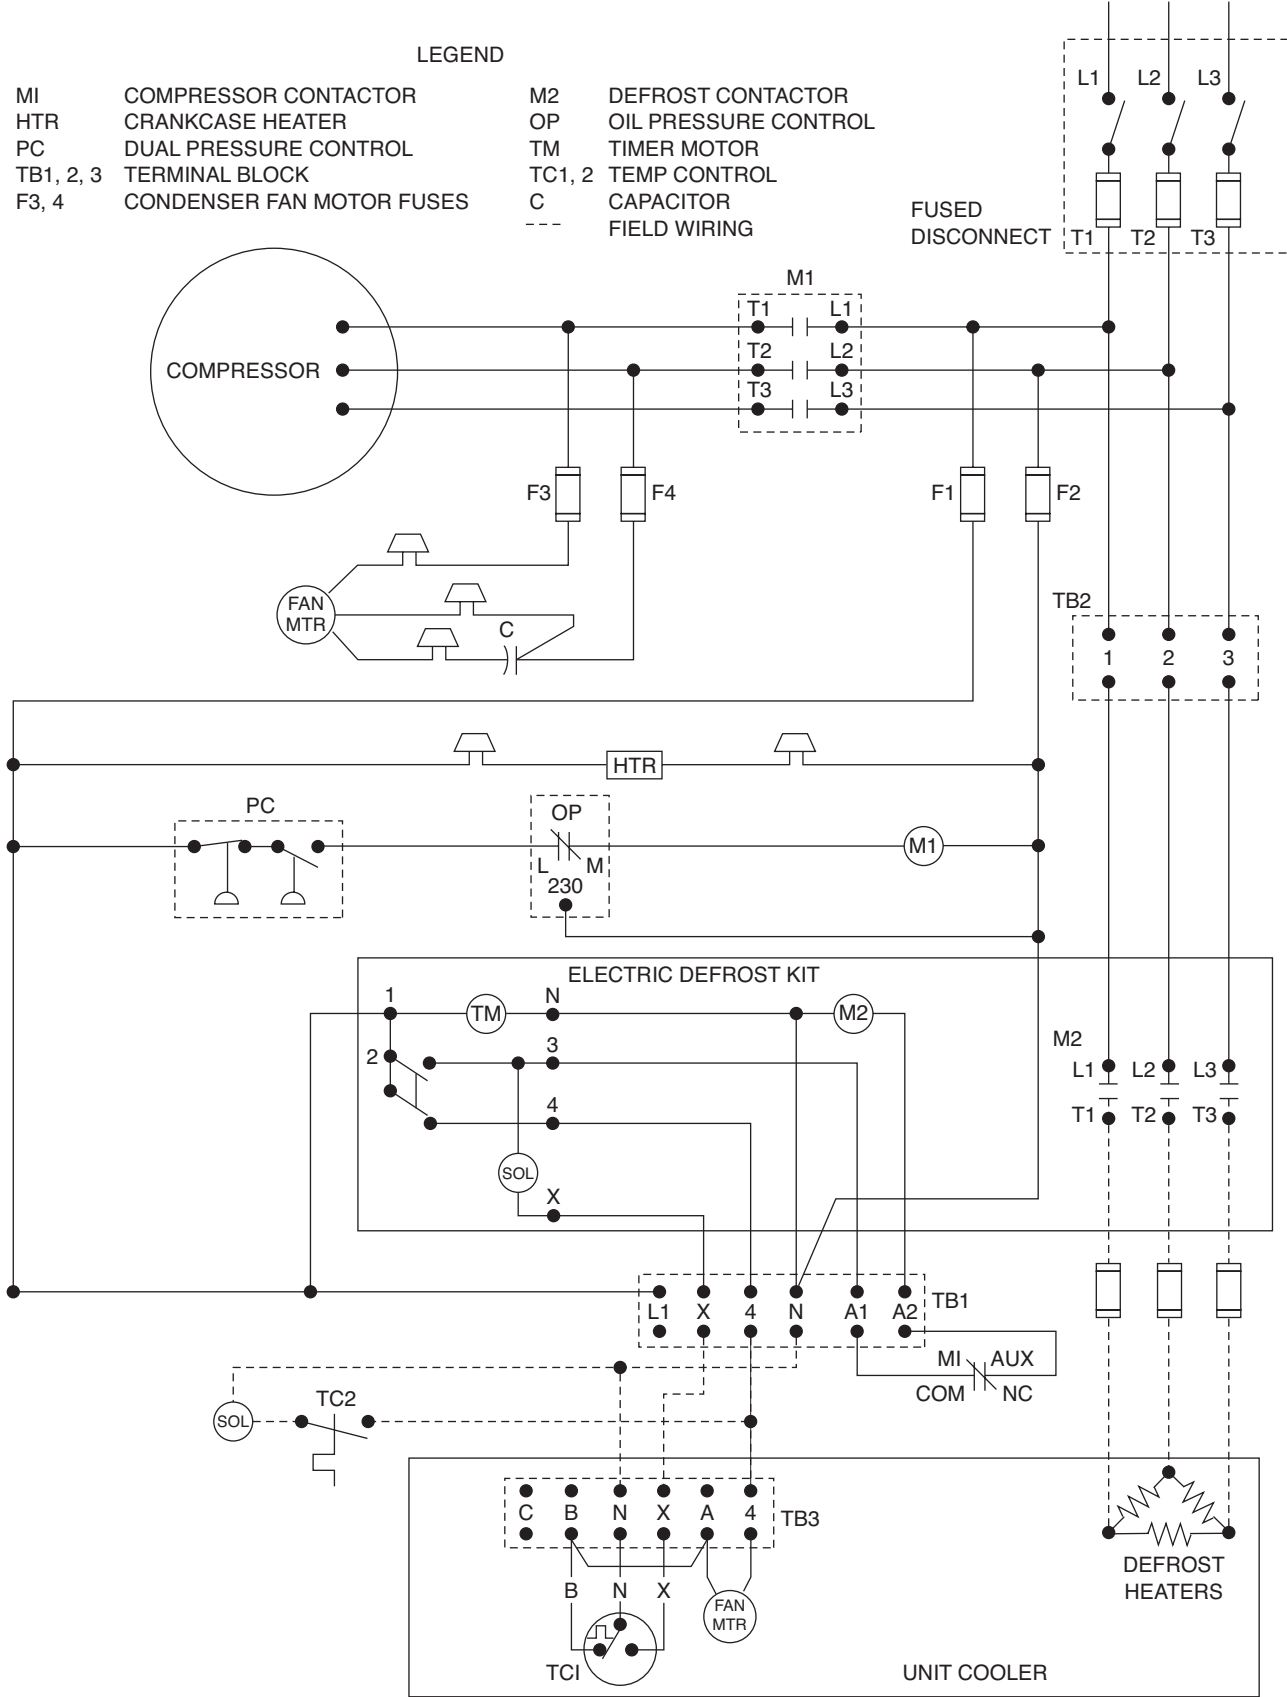

FIGURE 20-26 Walk-in cooler with electric defrost.
Figure 20-26 shows a wiring diagram similar to the previous system, but it is used for a split system on a freezer. Therefore, it requires an active defrost
- a. When does the fan motor in the unit cooler Figure 20-26 reclose following the defrost?